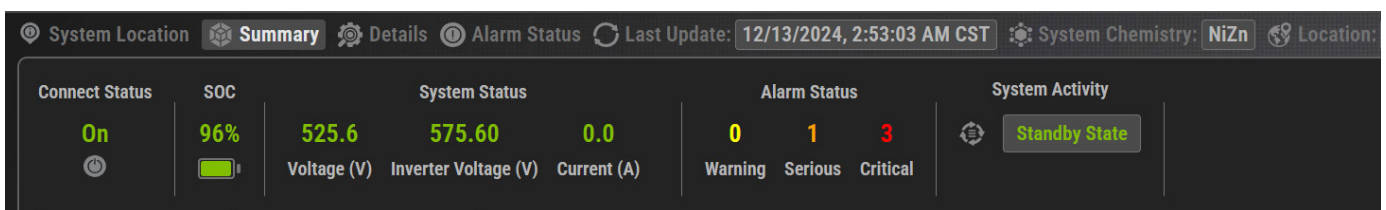

Figure 13 - Summary Tab.
4. Refer to the top left of the display shown in Fig. 13, and locate the **Summary** tab. Verify that the **Connected Status** is showing as on.